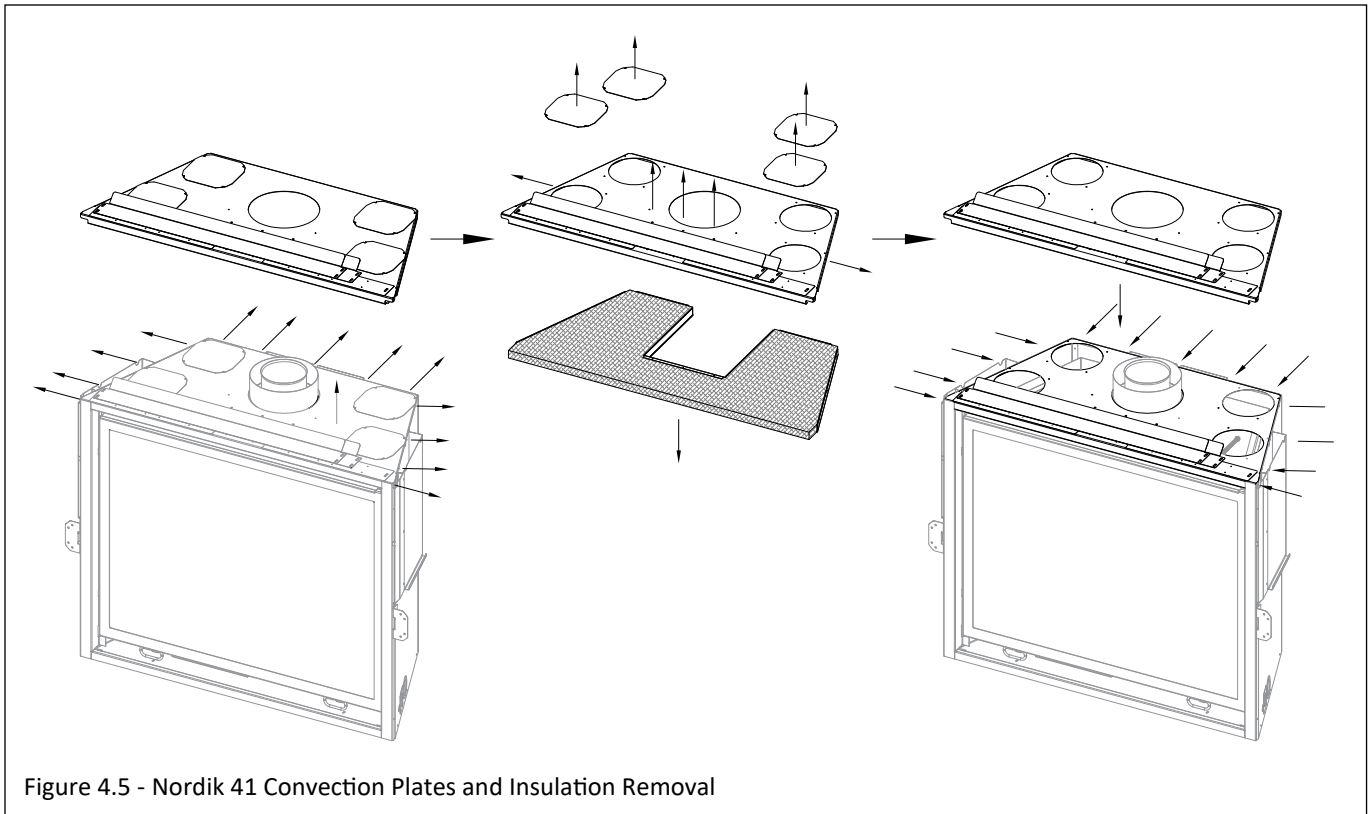
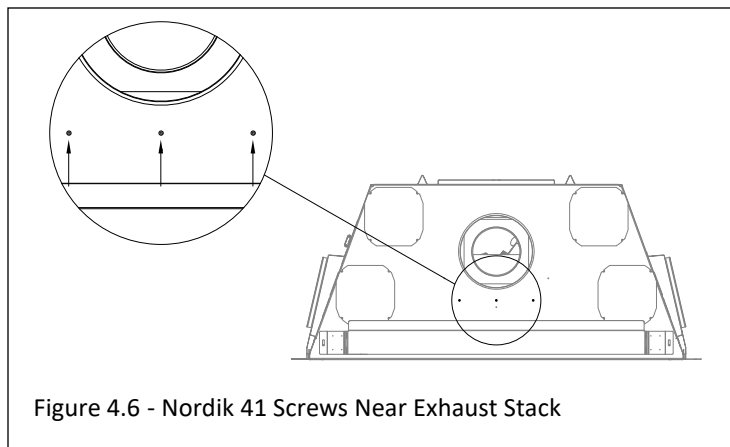

Figure 4.5 - Nordik 41 Convection Plates and Insulation Removal
Figure 4.6 - Nordik 41 Screws Near Exhaust Stack
1. Remove the (13) sheet metal screws that secure the top outer shell assembly. Pull this assembly straight up around the exhaust stack to remove it from the appliance. See the first image in Figure 4.5.
2. Remove the (4) cover plates where each cover plate is secured with (4) sheet metal screws. See the second image in Figure 4.5. Discard these cover plates.
3. Remove (3) sheet metal screws from the top of the assembly (see close up in Figure 4.6) and (2) sheet metal screws on the side of the assembly (one screw on each side shown in the second image of Figure 4.5). You are now able to separate the two sections of the top outer shell assembly. Remove and discard both the insulation and the bottom section of the top assembly. Additionally discard the (4) cover plates shown in the second image of Figure 4.5.
4. Reinstall the top outer shell assembly on the appliance with the previously removed (13) sheet metal screws.